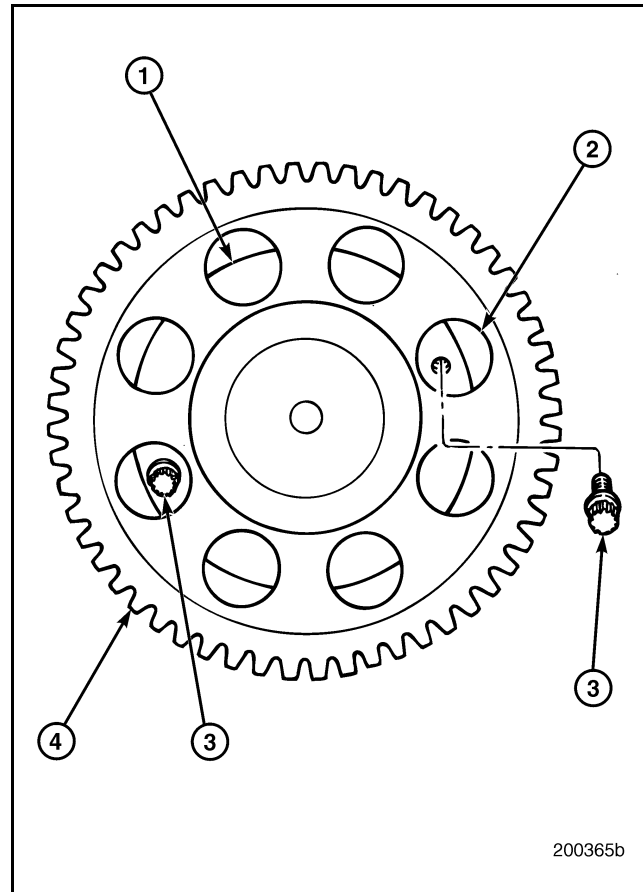

Figure 316 — Camshaft Thrust Washer Capscrews
3. Remove the two 12-point capscrews (3) that retain camshaft thrust washer (1). Camshaft may have to be rotated slightly to make the capscrews accessible through openings (2) in the camshaft drive gear (4). Refer to Figure 316.